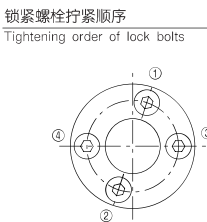

图3 / Fig. 3
3. 按涨紧套部件A、衬套、涨紧套部件B、加压法兰的顺序安装在滚轮上。请确认涨紧套的朝向是内圈是放在内侧的状态 (图3)。
Install the clamping tool parts in the roller pinion in order of the clamping tool A, the space, the clamping tool B and the pressure flange. At this time, the inner ring of the clamping tool should be on the back side(Fig. 3).
7. 调整后, 将锁紧螺栓按照对角线顺序 (图3) 均等拧紧到各自规定扭矩的大约1/4, 慢慢加大扭矩进行拧紧。
After the adjustment, fasten the lock bolts diagonally(Fig.3) and uniformly starting at 25% or so of recommended tightening torque with gradual increase.